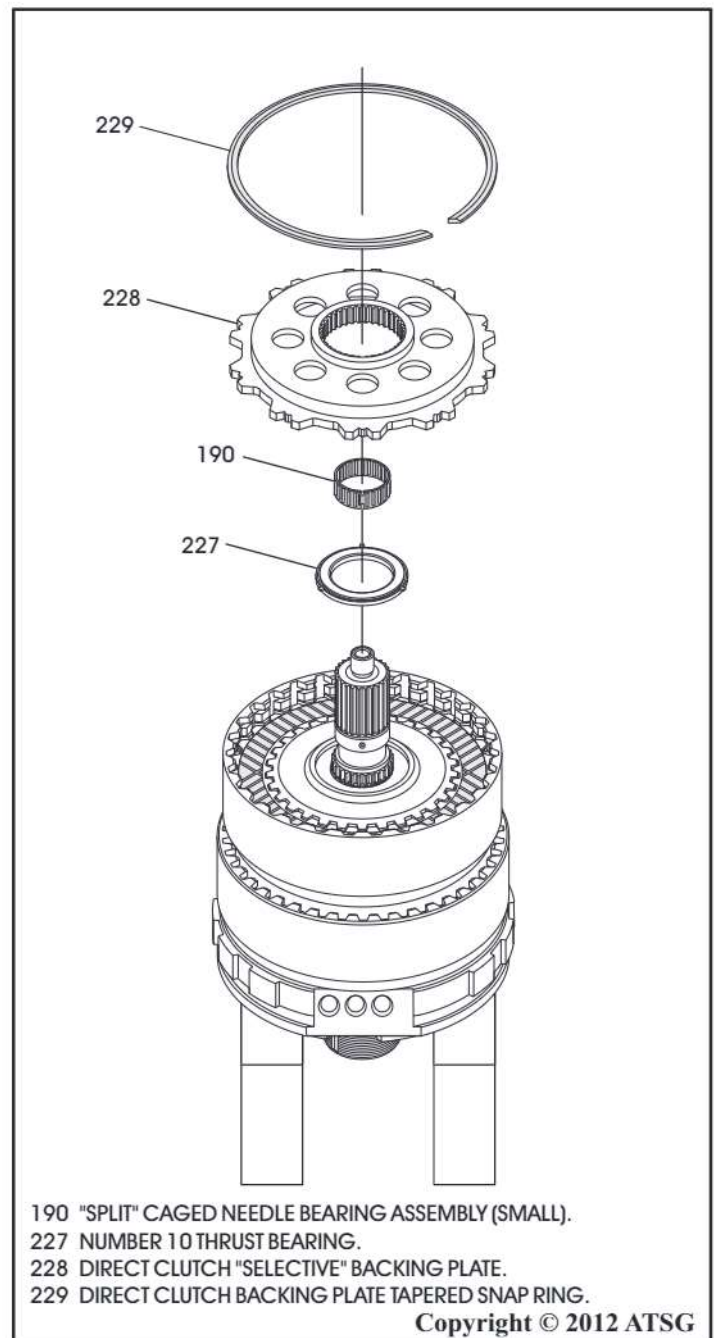

Figure 129
7. Turn the assembly over again and remove the direct clutch backing plate tapered snap ring, as shown in Figure 129.
8. Remove direct clutch backing plate, as shown in Figure 129.
9. Remove the small "split" caged needle bearing from the underdrive center shaft, as shown in Figure 129.
10. Remove the number 10 thrust bearing, as shown in Figure 129.